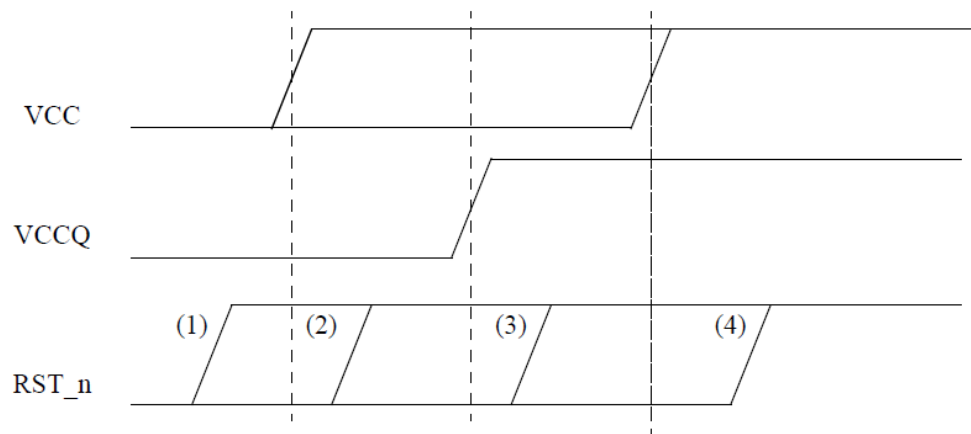

Figure 18 — RST_n signal at the power up period
When device powers up, RST_n signal also rises with power source ramp up. So the device may detect rising edge of the RST_n signal at the power up period (either (1), (2), (3) or (4) as shown in Figure 18 below). The device must handle this situation and work properly after the power-up.